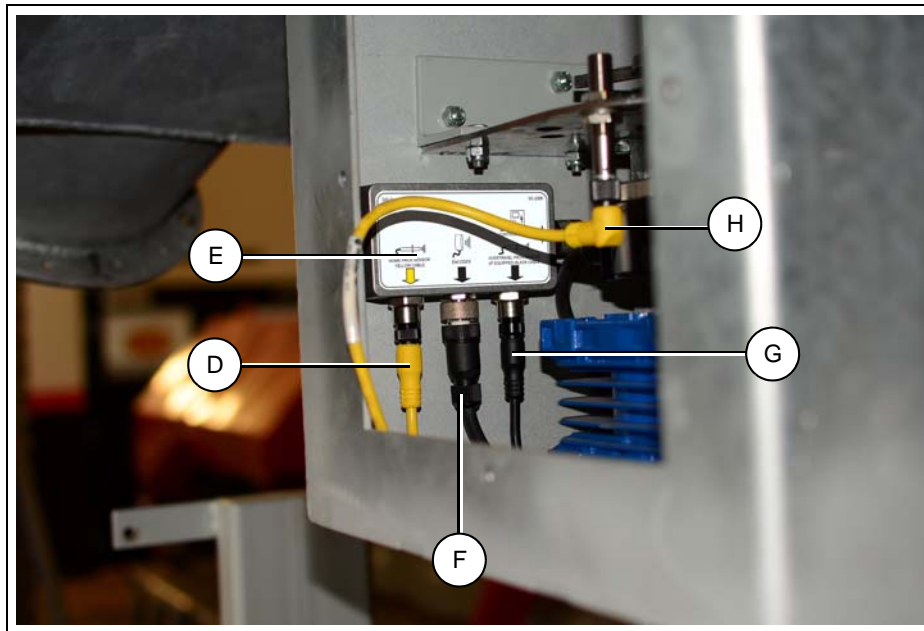

Figure 6K Control Panel Wiring to Junction Box Electrical Connections
3. Connect cables to the connector enclosure. (See Figure 6K.)